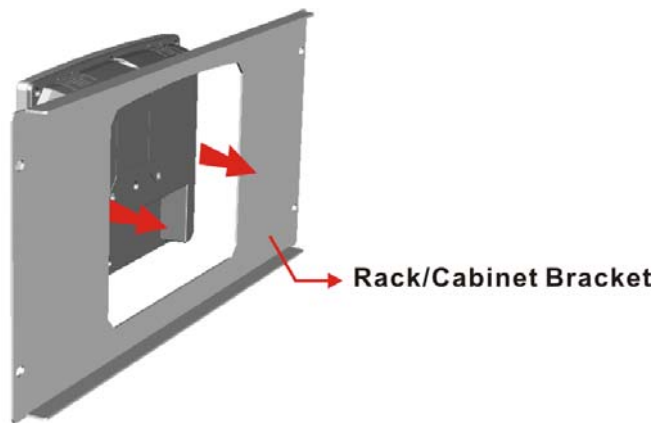

Figure 2-16: The Rack/Cabinet Bracket
- Step 1:** Slide the rear of the AFL-W10A-N270 panel PC through the rack/cabinet bracket until the aluminum frame is flush against the front of the bracket (**Figure 2-16**).